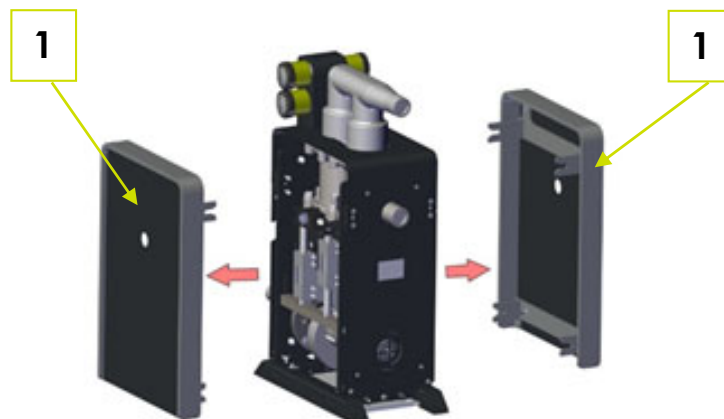

Fig. 4-3: Dismounting the side cover
3. Take off the side cover elements (1) in the direction of the arrow (Fig. 4-3: Dismounting the side cover).